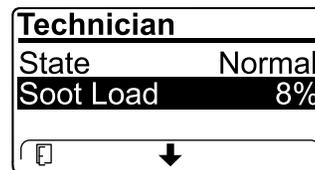

Figure 38
- View the soot load which is measured as the percentage of soot in the DPF (Figure 38); refer to the soot-load table.